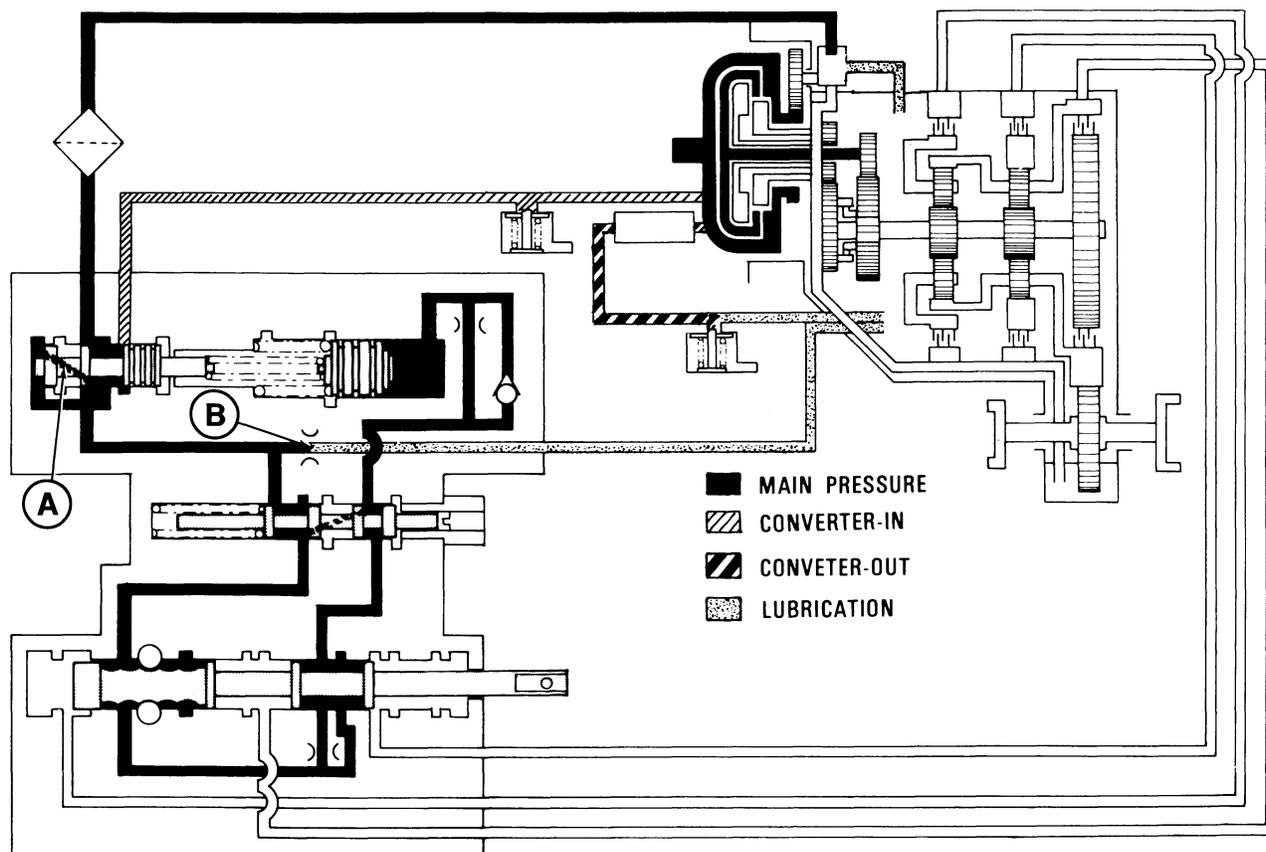

FIG. 5 HYDRAULIC SYSTEM – SCHEMATIC VIEW
2.11.7(Converter-Out, Cooler Lubrication Circuit)(Fig. 5). Oil flowing out of the torque converter is directed into the oil cooler. The oil cooler, like the oil filter, is loader mounted. The oil cooler is a heat exchanger in which the oil flows through water cooled passages.
(Fig.5). Main pressure oil supplied from the left end of the main pressure regulator valve, flows through orifice B to the clutch cutoff valve bore and then to the manual selector valve. From the selector valve the flow is directed back through the clutch cutoff valve bore to the trimmer. The orifice functions in connection with the trimmer.
(Fig.5). Main pressure oil from the clutch cutoff valve flows into the manual selector valve bore and surrounds the valve in the area of the detents notches. Main oil then flows, regardless of valve position, to another surrounding area toward the right end of the valve. Here it is available for forward range, high range, and operation of the trimmer.
2.11.16(Trimmer Circuit)(Fig. 5)